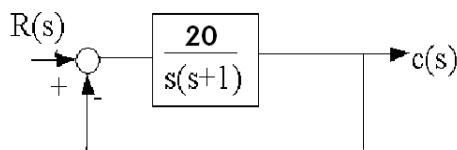
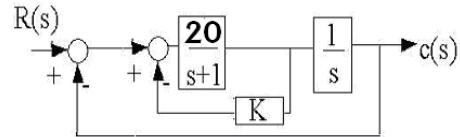

Figure 1
Figure 2
1. Consider the system shown in Figure 1. To improve the performance of the system a feedback is added to this system, which results in Figure 2. Determine the value of K so that the damping ratio of the new system is 0.4. Compare the overshoot, rise time, peak time and settling time and the nominal value of the systems shown in Figures 1 and 2.
For Figure 1,
For Figure 2,
Transient characteristics of Figures 1 and 2